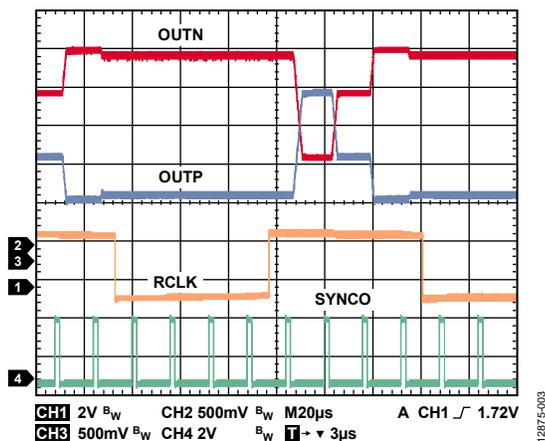

Figure 3. Expected RCLK\_OUT, VOP, VON, and SYNC\_OUT Waveforms
9. Use the RCLK signal present on P1 to trigger an oscilloscope. Observe that the demodulated output signals on TP27 and TP28 and the SYNCO signal on TP29 match the waveforms shown in Figure 3.